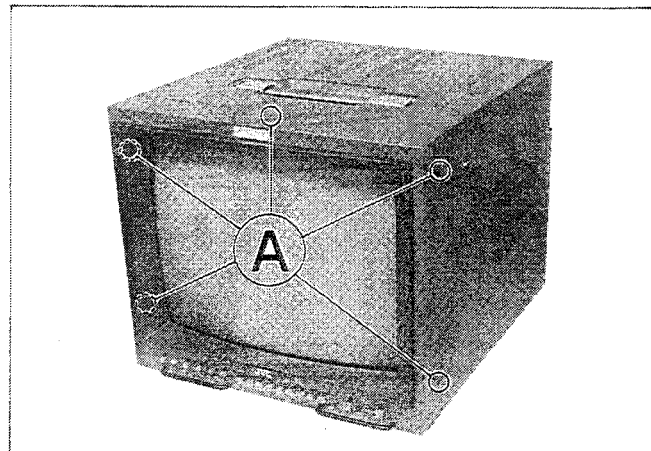

Fig. 4
Remove 5 screws (A) shown in Fig. 4 and pull the front panel toward yourself.